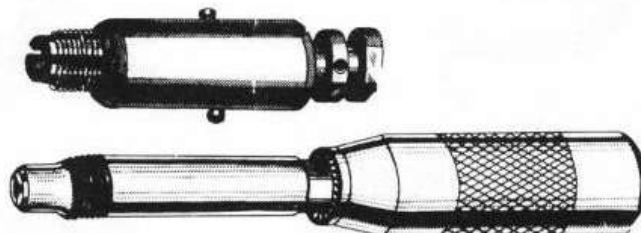

Figure 54
- (l) Use the Expanding and Staking Tool P/N 64593 (Figure 54) to stake the new installed 0.010 in. oversized Heli-Coil® insert securely in the spark plug hole as follows: